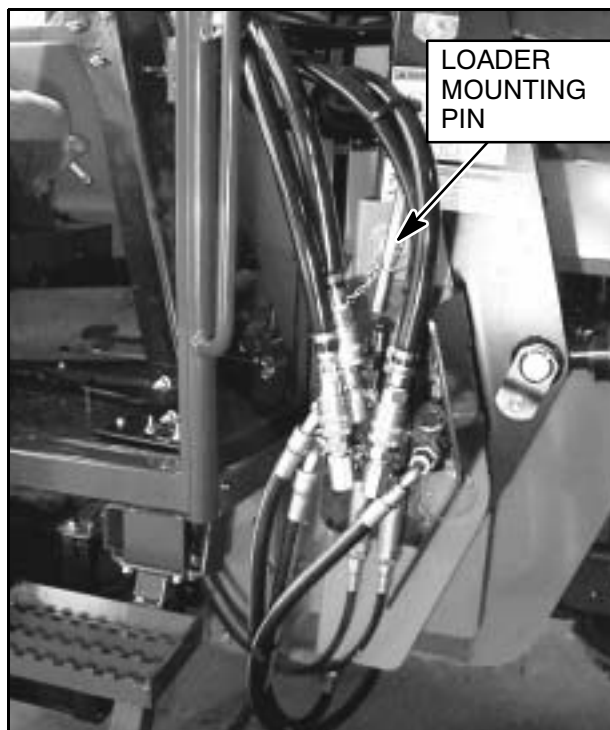

Figure 34 Hose Installation to Control Valve
2. Tighten fittings and align hoses as shown in Figure 34. Leave an opening to allow for installation and removal of the loader mounting pin.